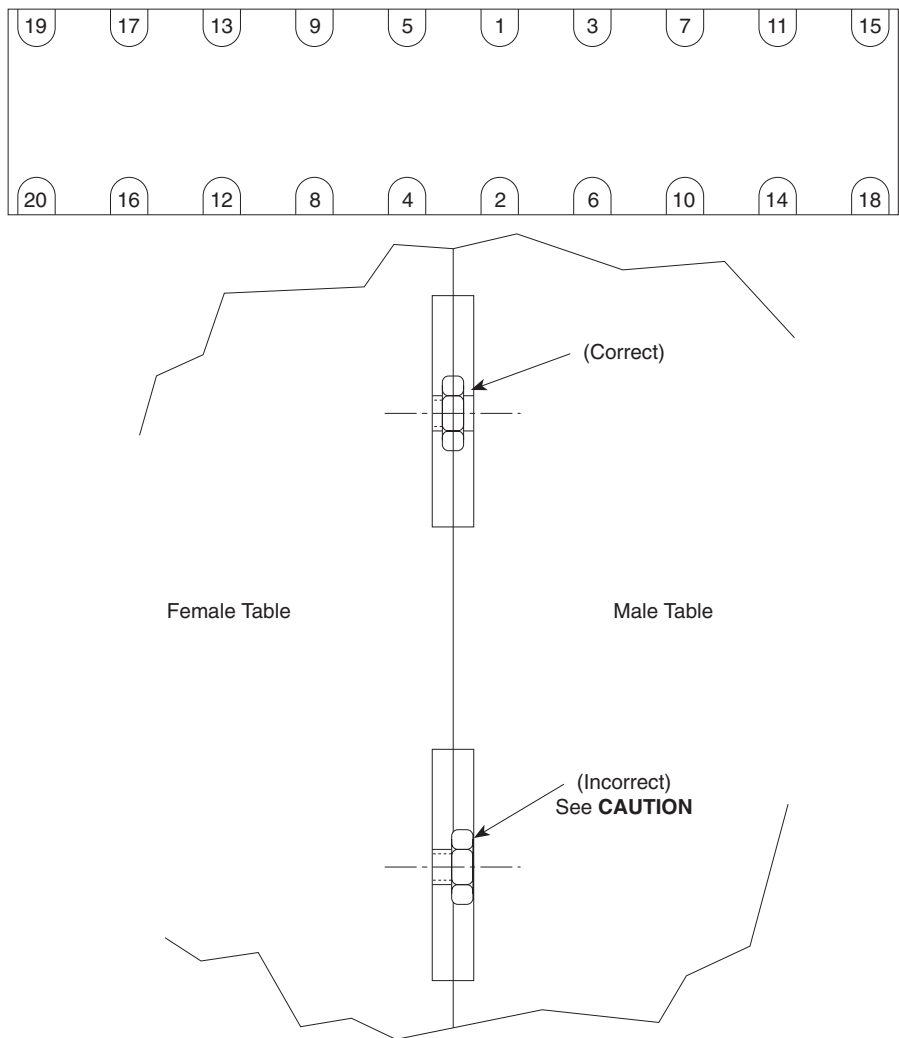

Figure 2.13 — Double Bolt Tightening Sequence
**Do not force the bolts. The second table section should be easily pulled up to the first. Figure 2.13 shows correct bolt head position during assembly.**
- J. When all bolts are snug, apply a final torque of 60 pound-feet (80 N-M) to all bolts using the sequence shown in Figure 2.13.